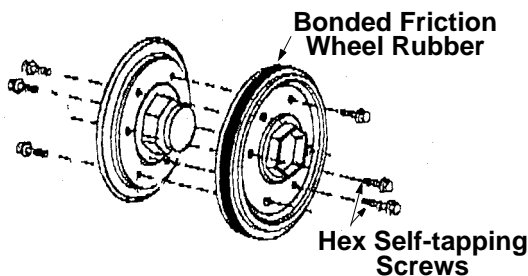

Figure 22
7. Reassemble new bonded friction wheel rubber to the friction wheel assembly, tighten the six screws in rotation and with equal force. See Figure 22.